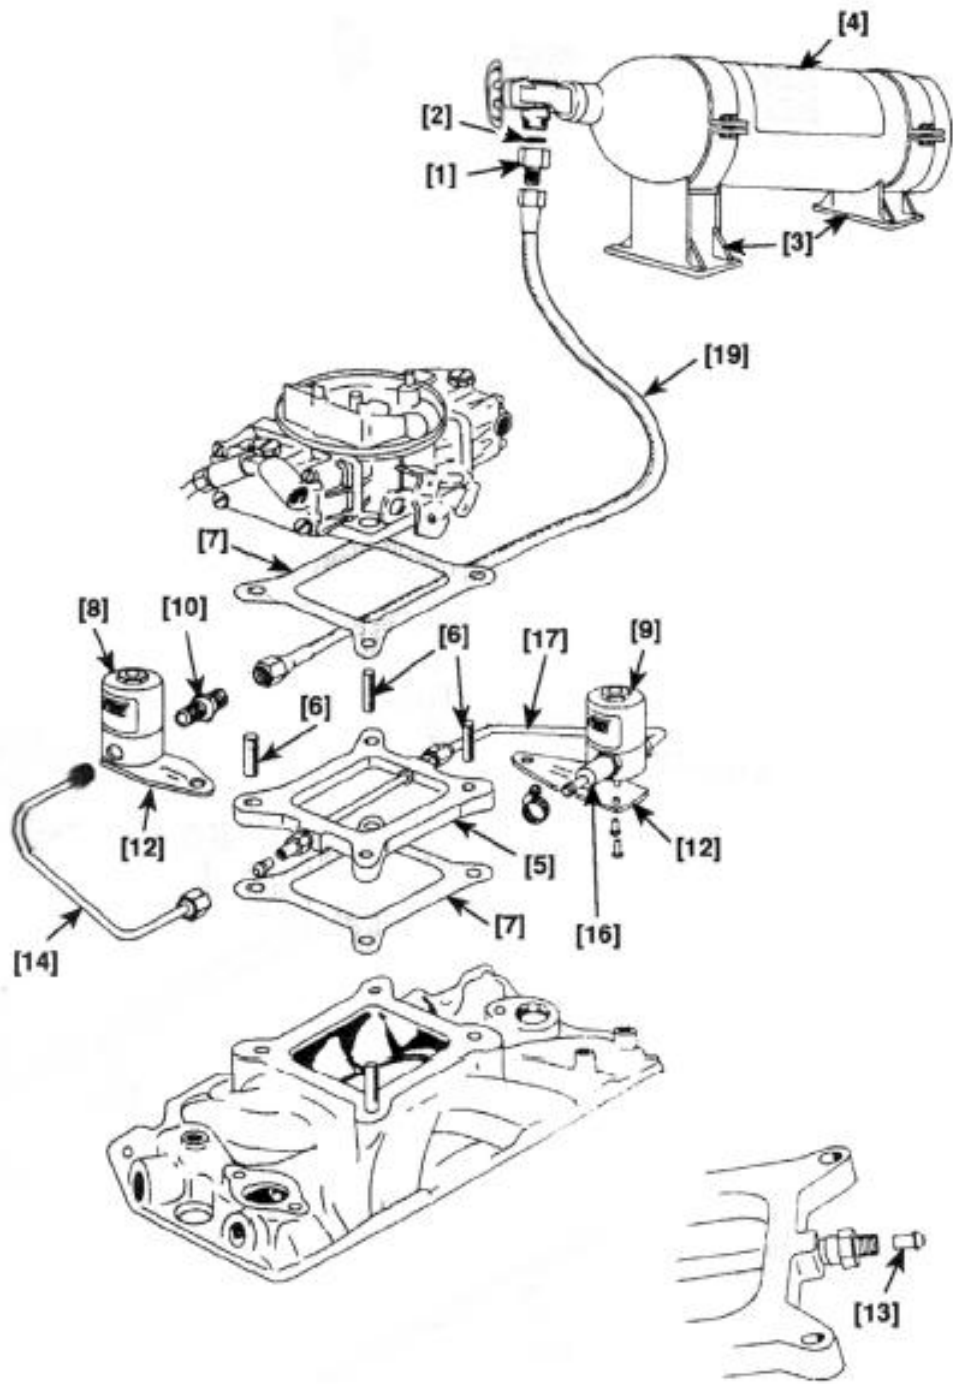

Figure 4
NOTE: Numbers in parentheses () refer to the parts list/assembly drawing number for the components. Figure 4 shows installation assembly for the DynoTune nitrous system.
- 1) Select the proper nitrous and fuel jets (13). Use the jet chart to select your power setting. Place the desired jets into the plate as shown, making sure that the jets are inserted into the correct locations, Red hose goes to fuel jet fitting, blue hose goes to nitrous jet fitting.
- 2) Connect and tighten the blue fitting side of the 1 ft. 3AN hose (14) to the plate as shown in figure 4
- 3) Connect and tighten the red fitting side of the 1 ft. 3AN hose (17) to the plate as shown in figure 4